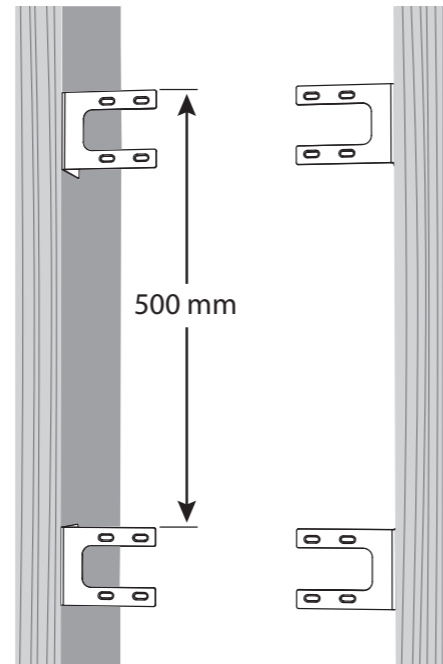

Fig. 1 Screw the back can brackets to the ceiling joists
2. Position the brackets as shown in Fig. 1, making sure that the lower faces of the brackets are flush with the lower face of the ceiling joists. Secure each bracket to the ceiling joist using four screws per bracket.